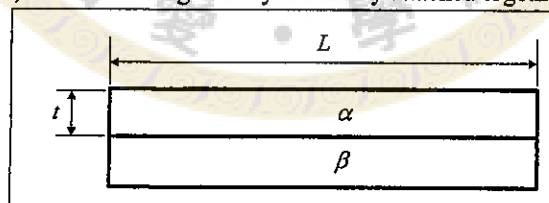

Fig.2 Bi-sheet
2. Two sheets S1 and S2 have the same size  $L \times W \times t$ , Young's Modulus  $E$ , but different thermal expansion coefficient  $\alpha$  and  $\beta=1.3\alpha$ , as shown in Fig.2. They are firmly attached together.